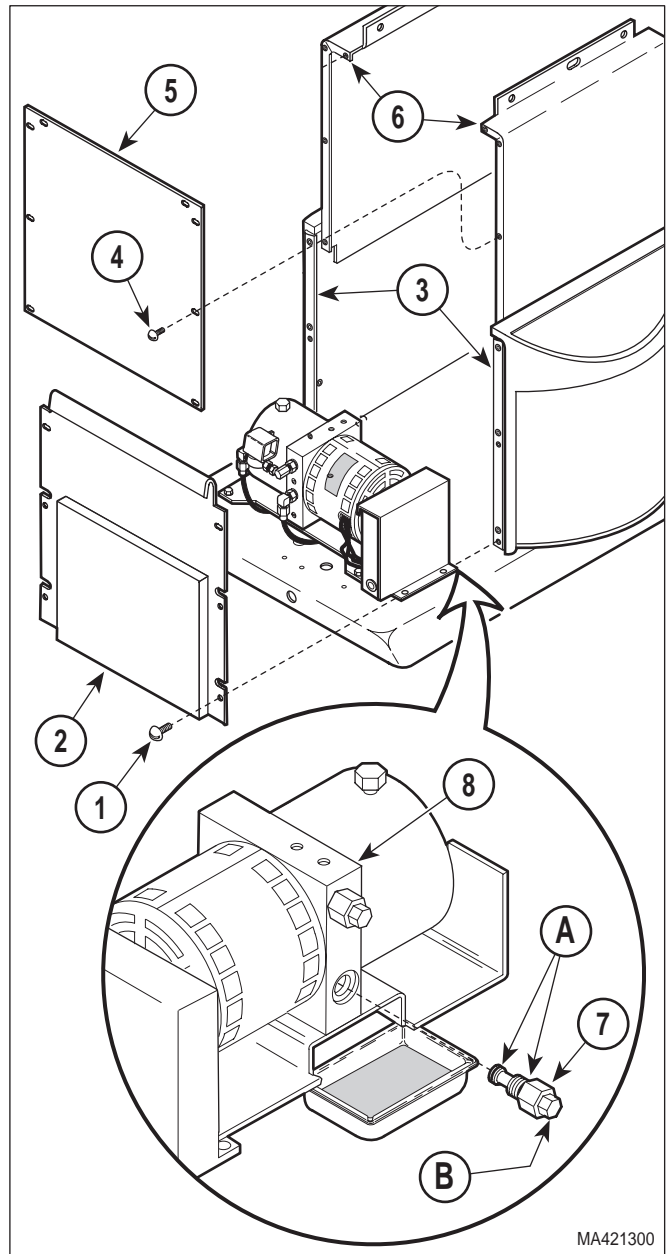

Figure 4-6. Up Functions Relief Valve Removal / Installation
- (1) If possible, raise TABLE UP function all the way up.
- (2) Unplug power cord from wall outlet.
- (3) Remove motor cover assembly (Refer to para 4.2).
- (4) Remove four screws (1, Figure 4-6) and back outer shroud (2) from left and right hand outer shrouds (3).